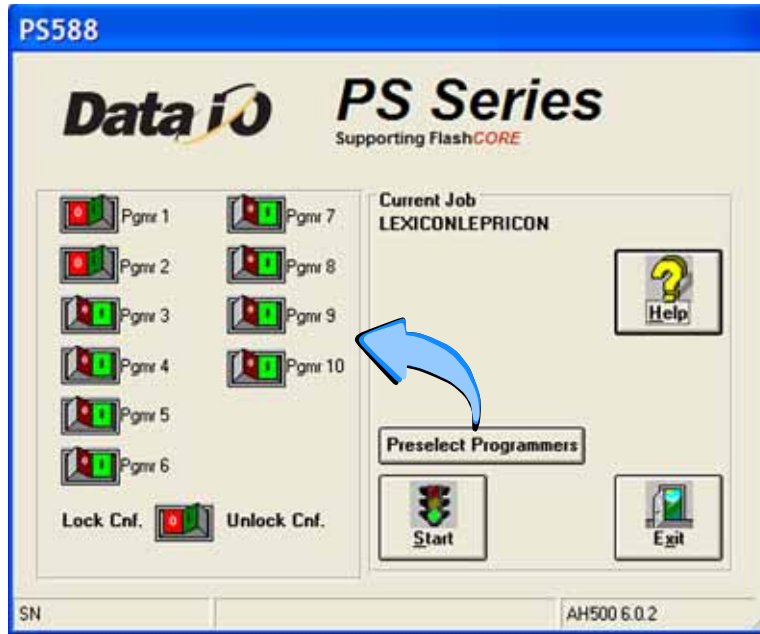

Figure 3-16: Preselecting programmers. In this image, programmers 1 and 2, are disabled. (PS588 shown.)
3. For each programmer, click **I** (green side) of the button to enable it or the **O** (red side) to disable it. See Figure 3-16.